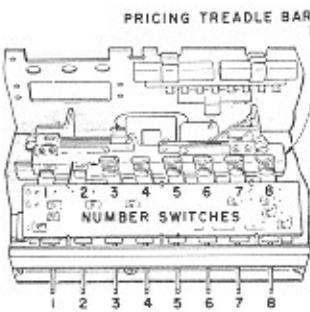
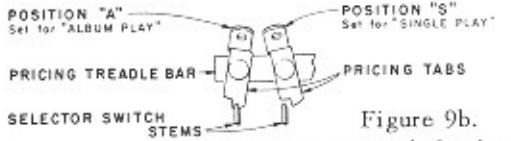

Figure 9a.
Figure 9b.
Removal of the Electrical Selector Cover exposes the Pricing Treadle Bar, *Figure 9a*, to which are attached eight (8) Pricing Tabs. The tab which corresponds to the required number group is placed in position "A", *Figure 9b*. Tabs 1 and 2 are permanently set for "Album Play".